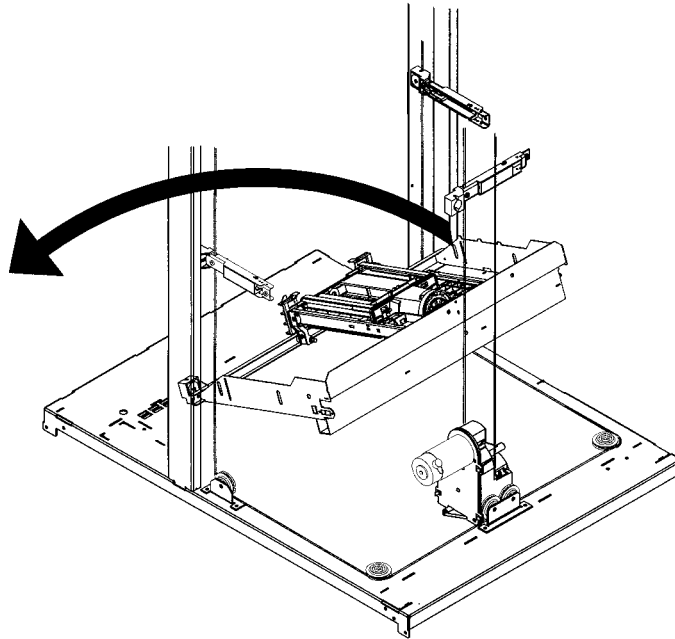

Figure 72: Rotating the Translate Frame Out of the Chassis
9. Rotate the rear of the translate frame up and then remove the frame out to the side (see Figure 72).